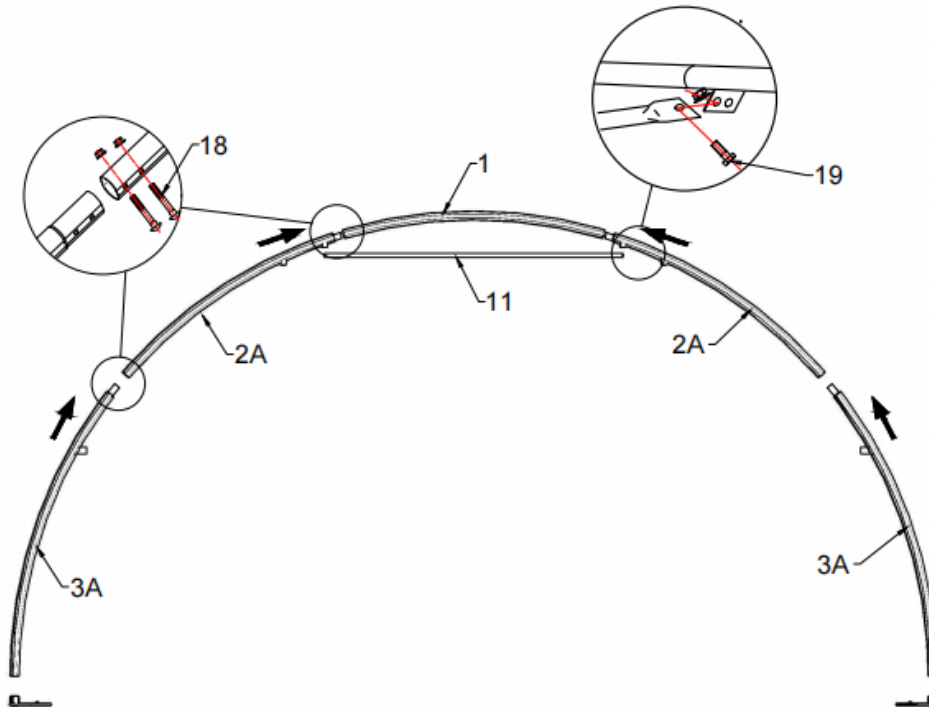

Figure 2
1. As Figure 2&3 shown to find one Roof Bent Tube (No.1), two pieces of Middle Bent Tubes (No.2), Lower Bent Tube (No. 3) and assemble every group arch with Screw M8x60 (No.18). DO NOT install the screw on the top of the truss where the fabric will rest.